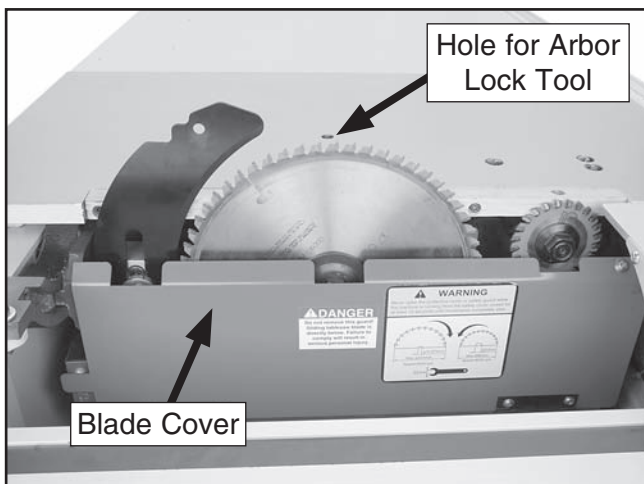

Figure 49. Blade cover made accessible with sliding table moved out of the way.
3. Move the sliding table out of the way to expose the lower blade cover that covers the blades and riving knife, as shown in **Figure 49**.
5. Insert the arbor lock tool into the hole shown in **Figure 49**, then rotate the blade by hand until the arbor lock tool seats.